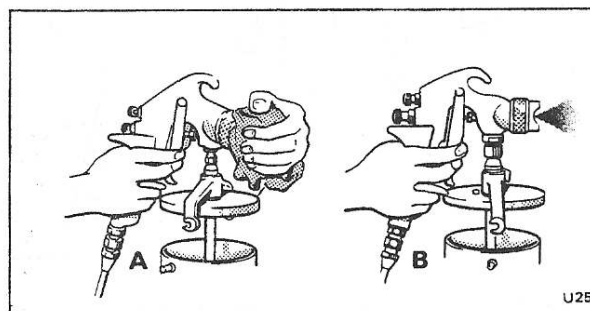

Fig. S75 Cleaning a suction feed spray gun
1. **Suction feed gun.** After spraying and whilst the gun is still connected to the compressed air supply, loosen the cup. With the fluid tube still within the cup, hold a piece of cloth lightly over the centre hole of the air cap (see Fig. S75). Pull the trigger, the cloth pad will then turn back the compressed air through the fluid tube into the cup.
Empty the cup, allowing it a few moments to drain. Partially fill it with a suitable cleaning fluid and re-attach the cup to the gun. Spray the fluid through the gun in the normal way, but occasionally hold the cloth over the cap as before so that the cleaning fluid is surged backwards and forwards through the fluid passages, cleaning them thoroughly (see Fig. S75).